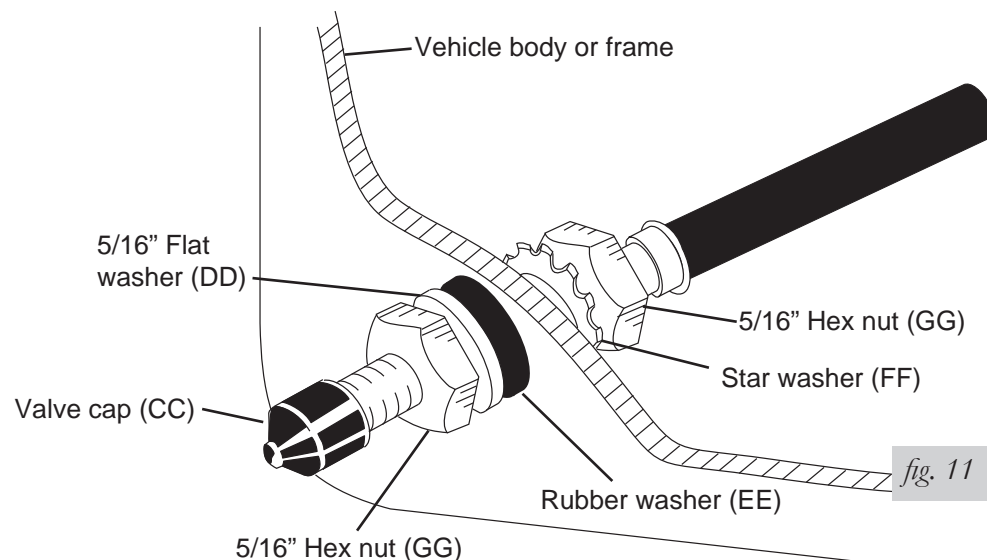

fig. 11
4. Place a 5/16" nut and star washer on the air valve. Leave enough of the inflation valve in front of the nut to extend through the hole and have room for the rubber washer, flat washer, and 5/16" nut and cap. There should be enough valve exposed after installation—approximately 1/2"—to easily apply a pressure gauge or an air chuck (Fig. 11).
5. Push the inflation valve through the hole and use the rubber washer, flat washer, and another 5/16" nut to secure it in place. Tighten the nuts to secure the assembly (Fig. 11).